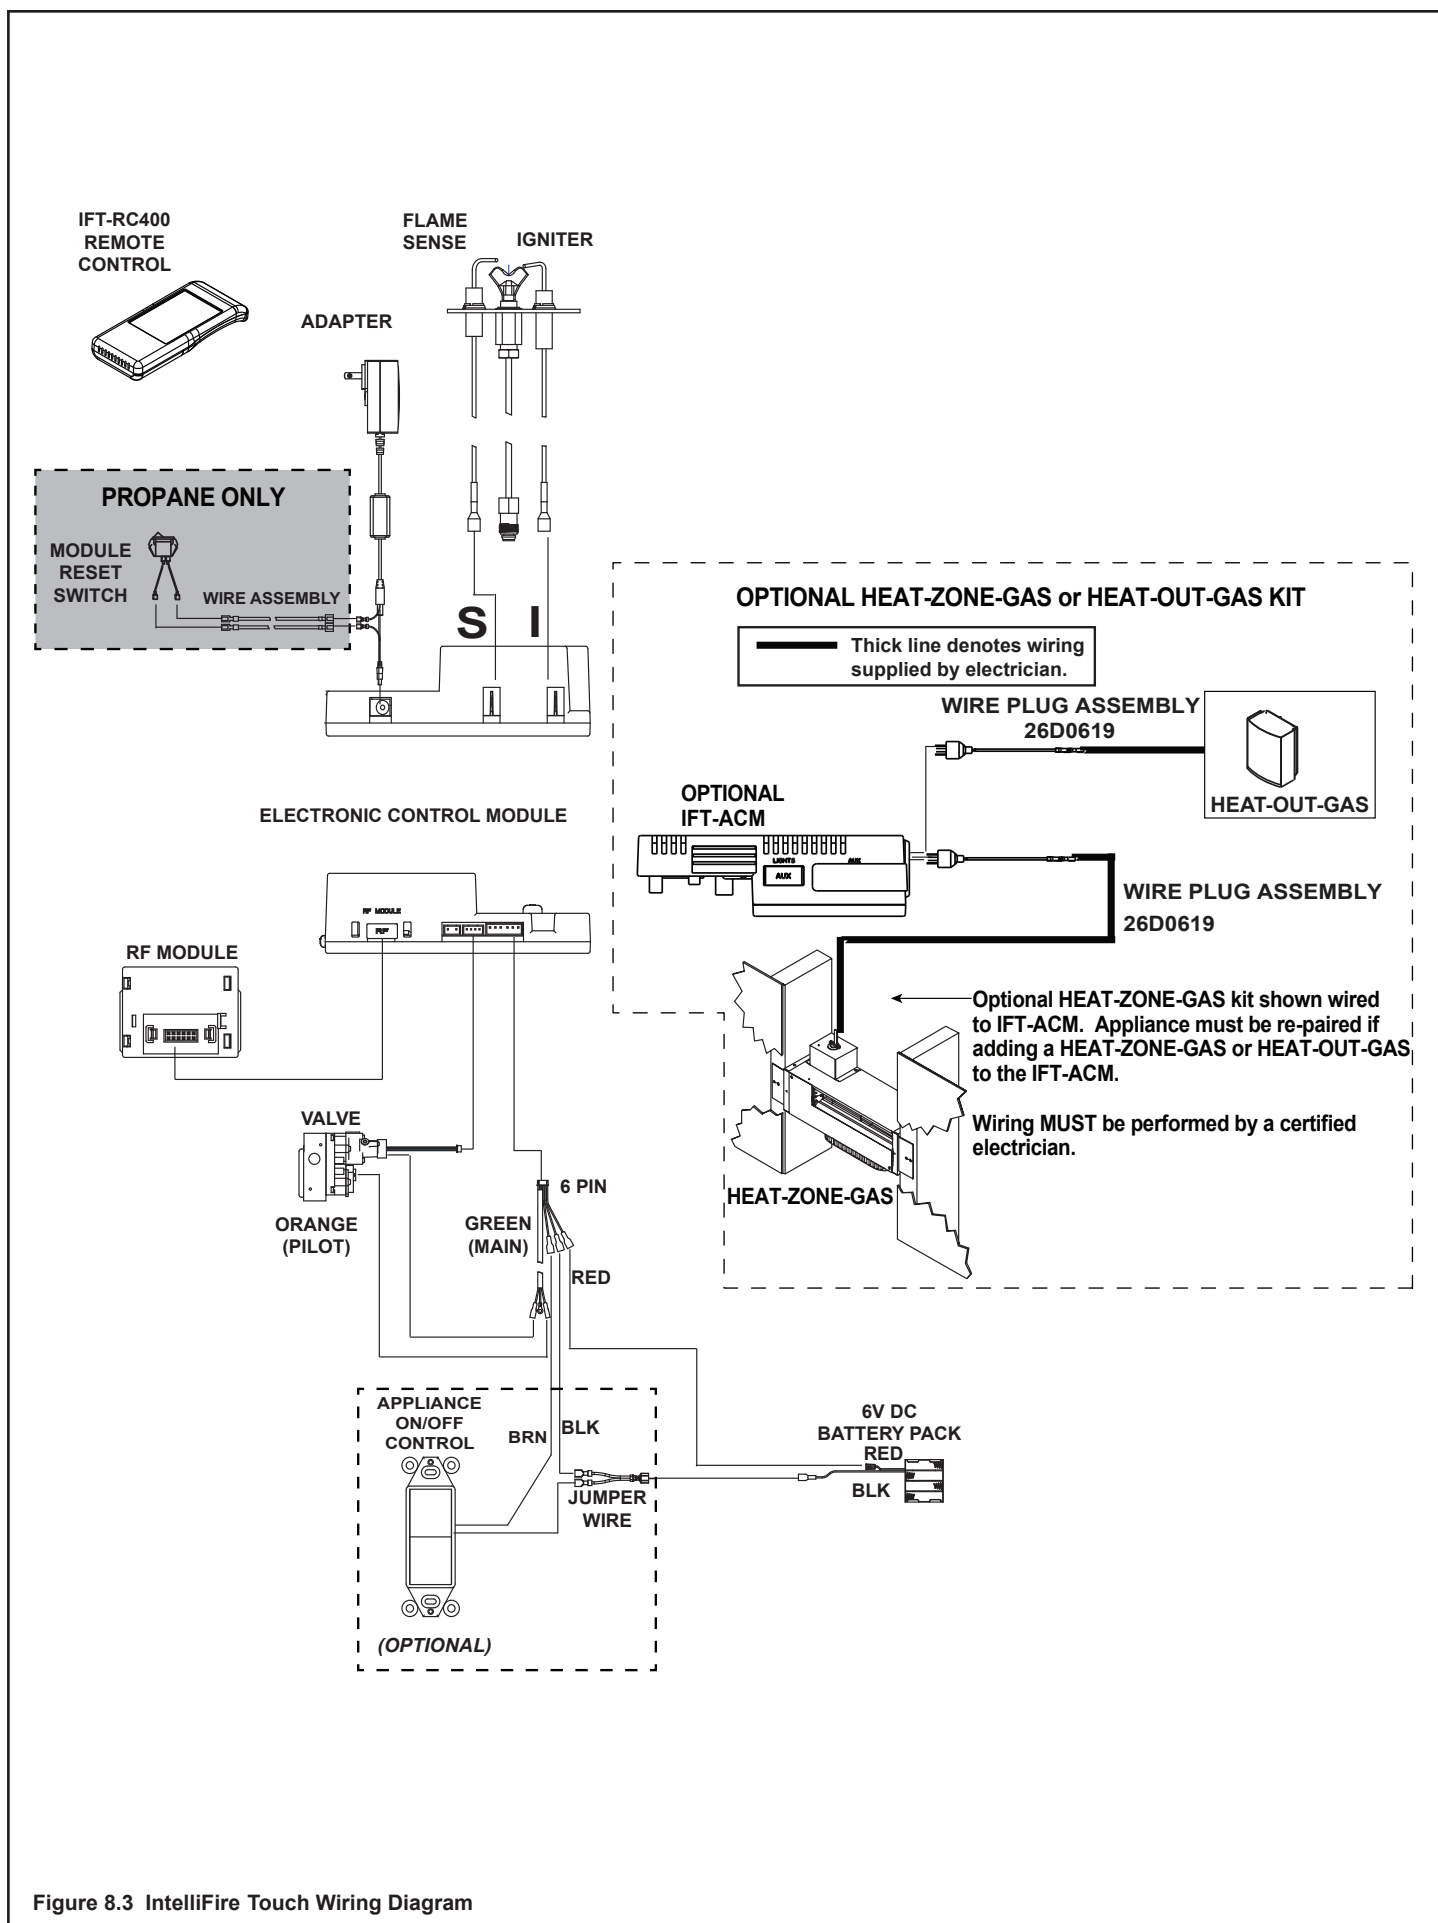

Figure 8.3 IntelliFire Touch Wiring Diagram
- Refer to Figure 8.3, IntelliFire Touch Wiring Diagram.